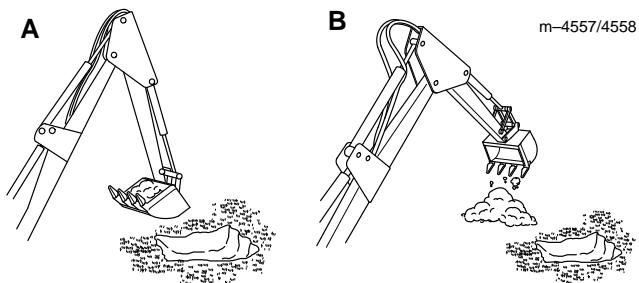

**Figure 19**
5. Remove the two pins locking the boom in place (Figs. 17 and 18) and place them in the storage positions (Fig. 19).